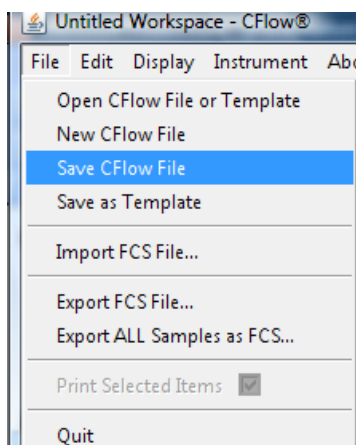

Figure 1-3 Saving a CFlow file
1. In CFlow, under the **File** menu select **Save CFlow File** (Figure 1-3) and save the bead data file as a "Validation Bead File". Use this file each day to collect Validation Bead data, advancing to a new well in row A or E for 8-peak and 6-peak beads, respectively. Include the date in the Sample Naming Field when naming each day's bead sample.